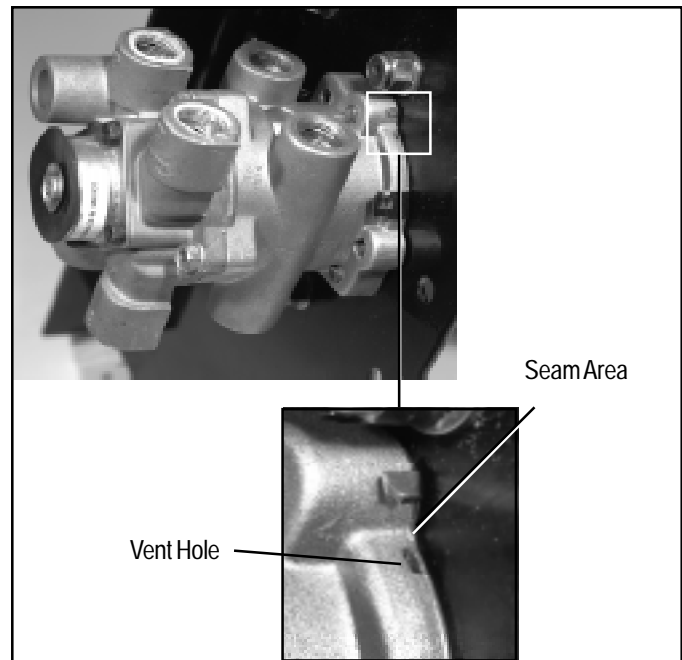

FIGURE 3- E-8P VENT HOLE
9. In the engine compartment identify the area of brake valve with the vent hole. If necessary for access, remove the horn using a 10mm socket wrench. Note the vent and seam area of the brake valve shown in figure 3. Using the alcohol wipe(6), clean this area to remove any traces of oil or dirt.